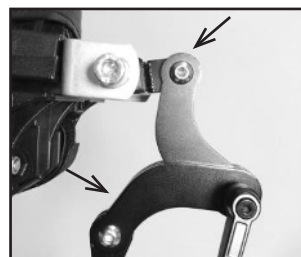

Fig. 92
1. Use 5mm Allen wrench to loosen the bolts and loosen the lever. Fig. 92